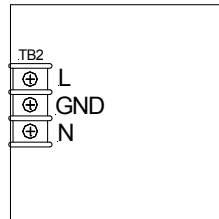

Figure 8:
1. Connect AC source. The AC source shall be connected to a dedicated, non-switch power source. The AC must first be wired into the buildings main electrical power. The conduit entry can be either from the top or left side using the knock-outs. See Figure 8. Connect Earth Ground First.